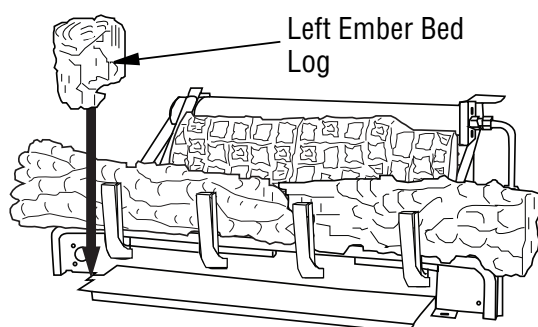

Figure 31 - Installing Left Ember Bed Log
- Place left ember bed log (18" D-073, 24" & 30" D-048) as shown in **Figure 31**. The log has groove on one side that sets on the ember bed pan. The back side of this log needs to rest against the front of the base assembly. Make sure the flame from the ember pan does not touch the ember bed log.